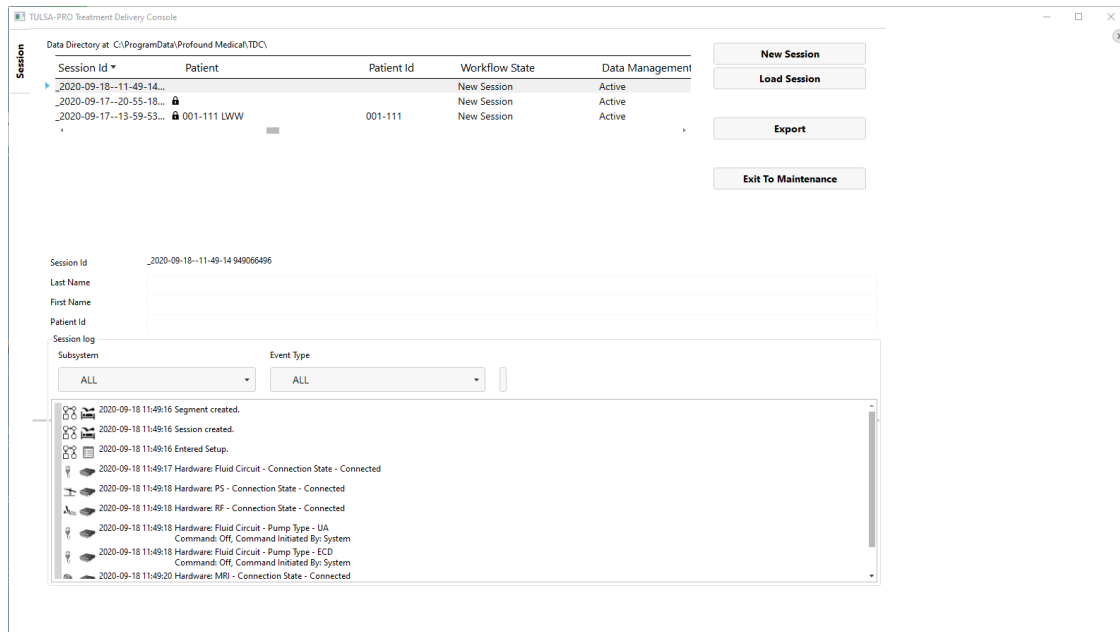

Figure 5: Session Data Management workspace of the TDC Main Menu
1. Launch the TDC software from the desktop. The *Session Data Management* workspace will appear. Click **New Session** (Figure 5).